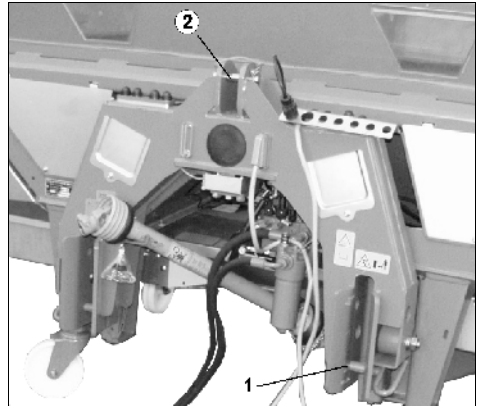

Fig. 17
- Fix lower link of tractor on lower link pin (cat. II) (Fig. 17/1) and secure by using a clip pin. Insert the pin into the upper hole of the lower link console.
- Fix upper link with link pin (cat. II) (Fig. 17/2) and secure by using a clip pin.